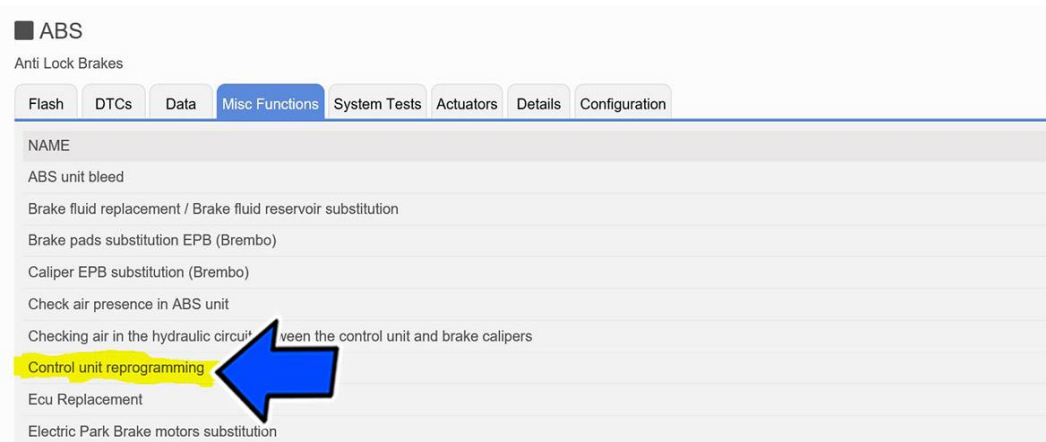

Figure 38 - Control Unit Reprogramming
- 17. From the ABS “Misc. Functions” tab, select and run the “Control Unit Reprogramming” routine (Figure 38).